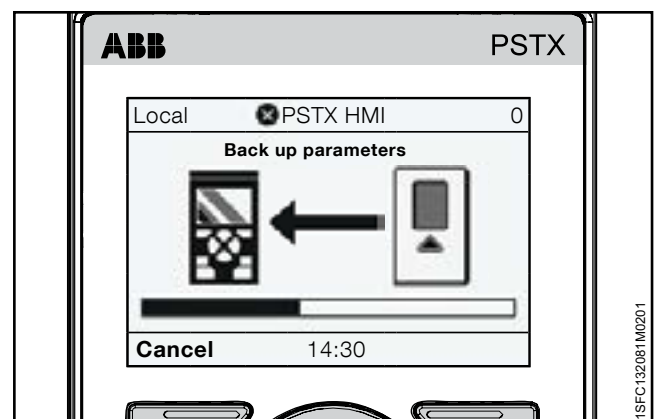

Figure 6.25
3. The download of parameters shows as in **Figure 6.25**. The name of the backup file shows as the day, month and year it was created.